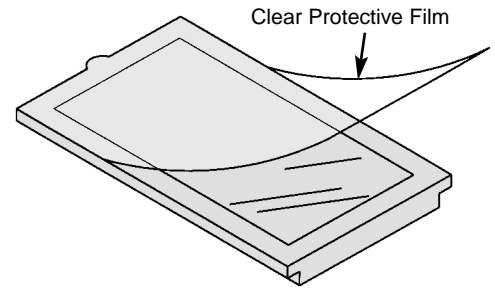

Figure 4-5
- Remove the clear protective film from the front of the LCD (**Note:** DO NOT remove the silver backing). Place the LCD and zebras in the LCD frame as shown in Figure 4-5. Be sure that the LCD tab is in the same direction as shown in the figure. Insert the square pins of the LCD frame into the PC board holes, from the solder side, and snap the frame into place on the PC board.